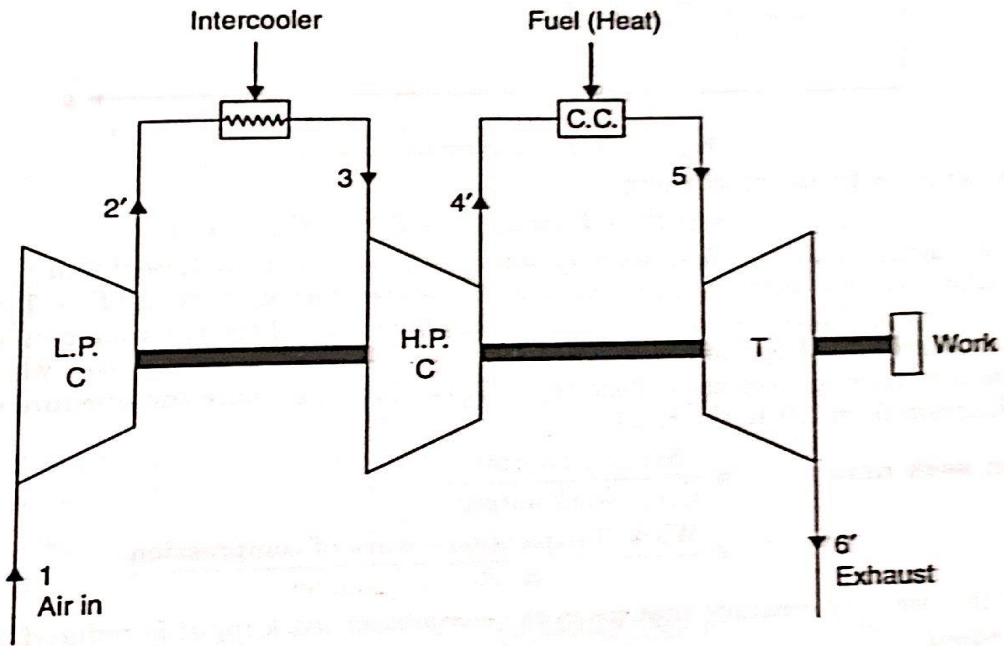

Fig. 5.5. Turbine plant with intercooler.
**1. Intercooling.** A compressor in a gas turbine cycle utilises the major percentage of power developed by the gas turbine. The work required by the compressor can be reduced by compressing the air in two stages and incorporating an intercooler between the two as shown in Fig. 5.5. The corresponding T-s diagram for the unit is shown in Fig. 5.6 (a). The actual processes take place as follows :